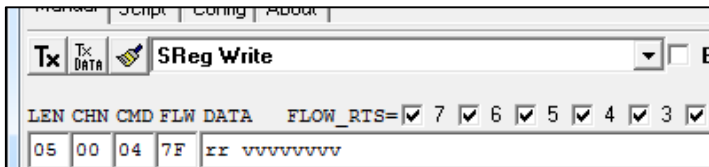

Figure 3: SReg Write
1. To select the command to write to an S register, click the drop-down menu and select **SReg Write** (Figure 3).